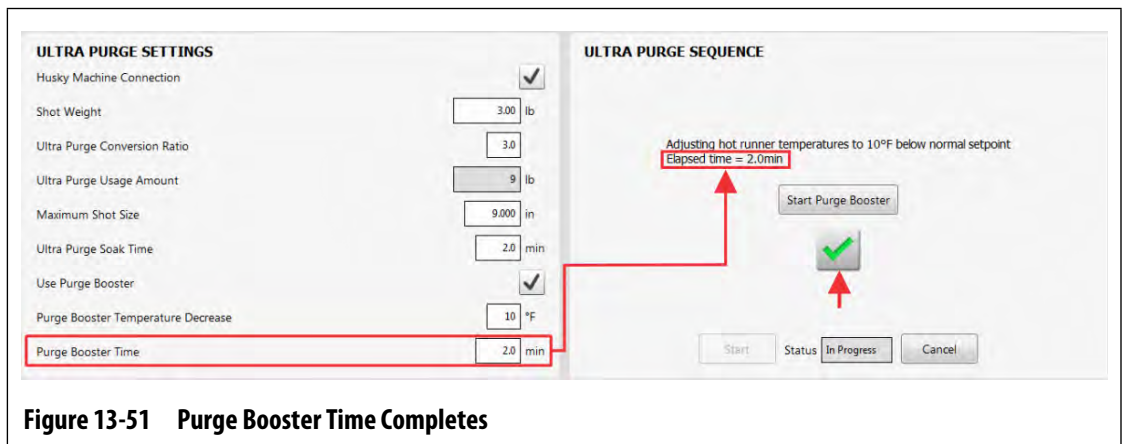

Figure 13-51 Purge Booster Time Completes
- When the Purge Time completes, touch the green check mark button to continue (refer to Figure 13-51.)